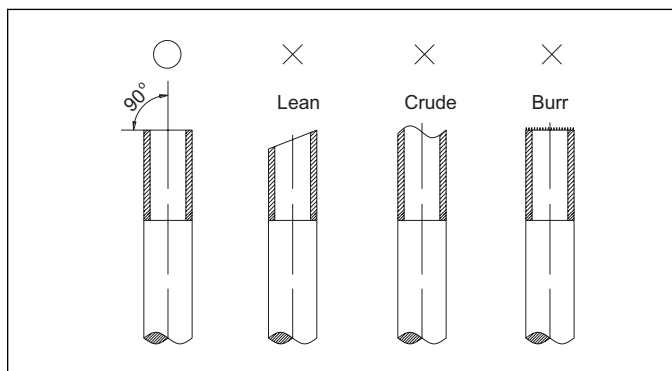

Figure 18. Cutting Pipe
4. Cut the selected pipes with a pipe cutter. Make the cuts flat and smooth as illustrated in "Figure 18. Cutting Pipe".